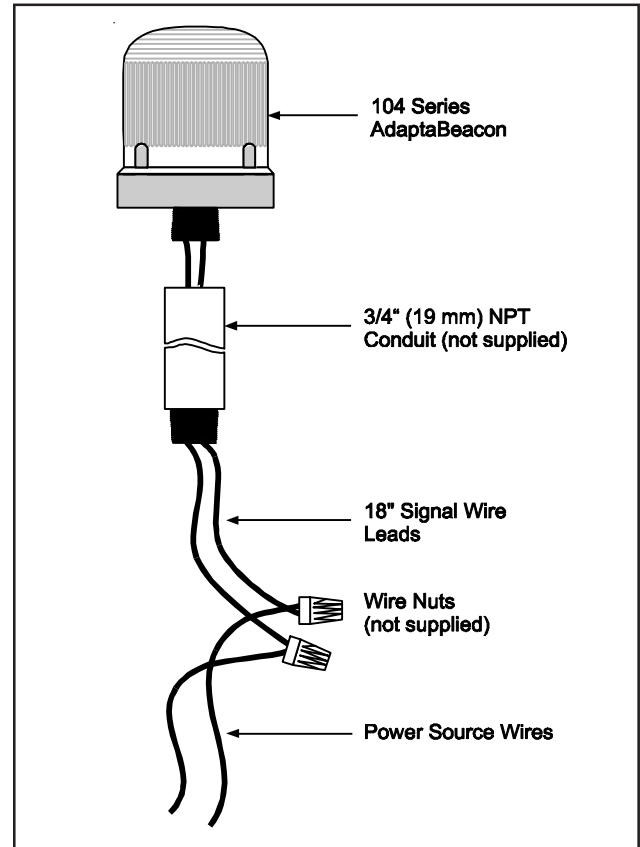

Figure 1. Conduit Mounting (3/4" Shown)
Conduit Mounting (Figure 1)
- a. For AC models, use wire nuts (not supplied) and connect the signal's black and white wire leads to the power source wires as shown in Figure 1. Polarity is not relevant.
- b. For DC models, connect the signal's red wire to the positive power source wire and connect the signal's black wire to the negative power source wire using wire nuts (not supplied). Polarity must be observed. Refer to Figure 1.
1. **Conduit Mounted Modules:** Disconnect wiring and, if necessary, unscrew base from conduit (Figure 1).